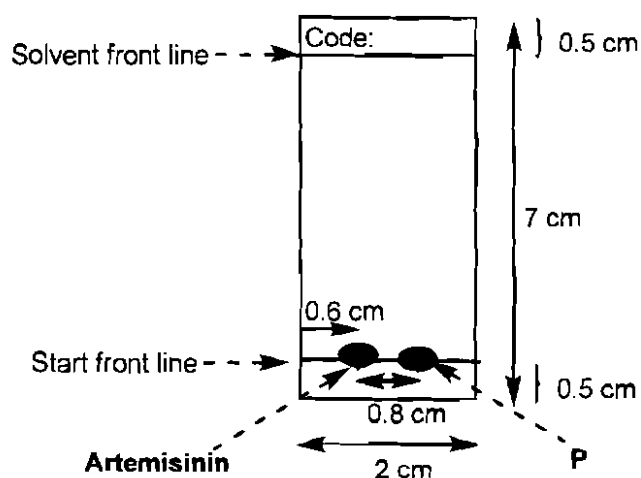

Figure 2.2. Instruction of TLC plate preparation
1. Check your TLC plate before use. Unused damaged plates will be replaced upon request without penalty. Use the pencil to draw the start front line, and the line where the solvent front will be run to **exactly as shown in Figure 2.2**. Write your student code on the top of the TLC plate in pencil.
- Spot the artemisinin solution and the product solution on the TLC plate using two different glass capillary spotters so the finished plate is as shown in Figure 2.2.